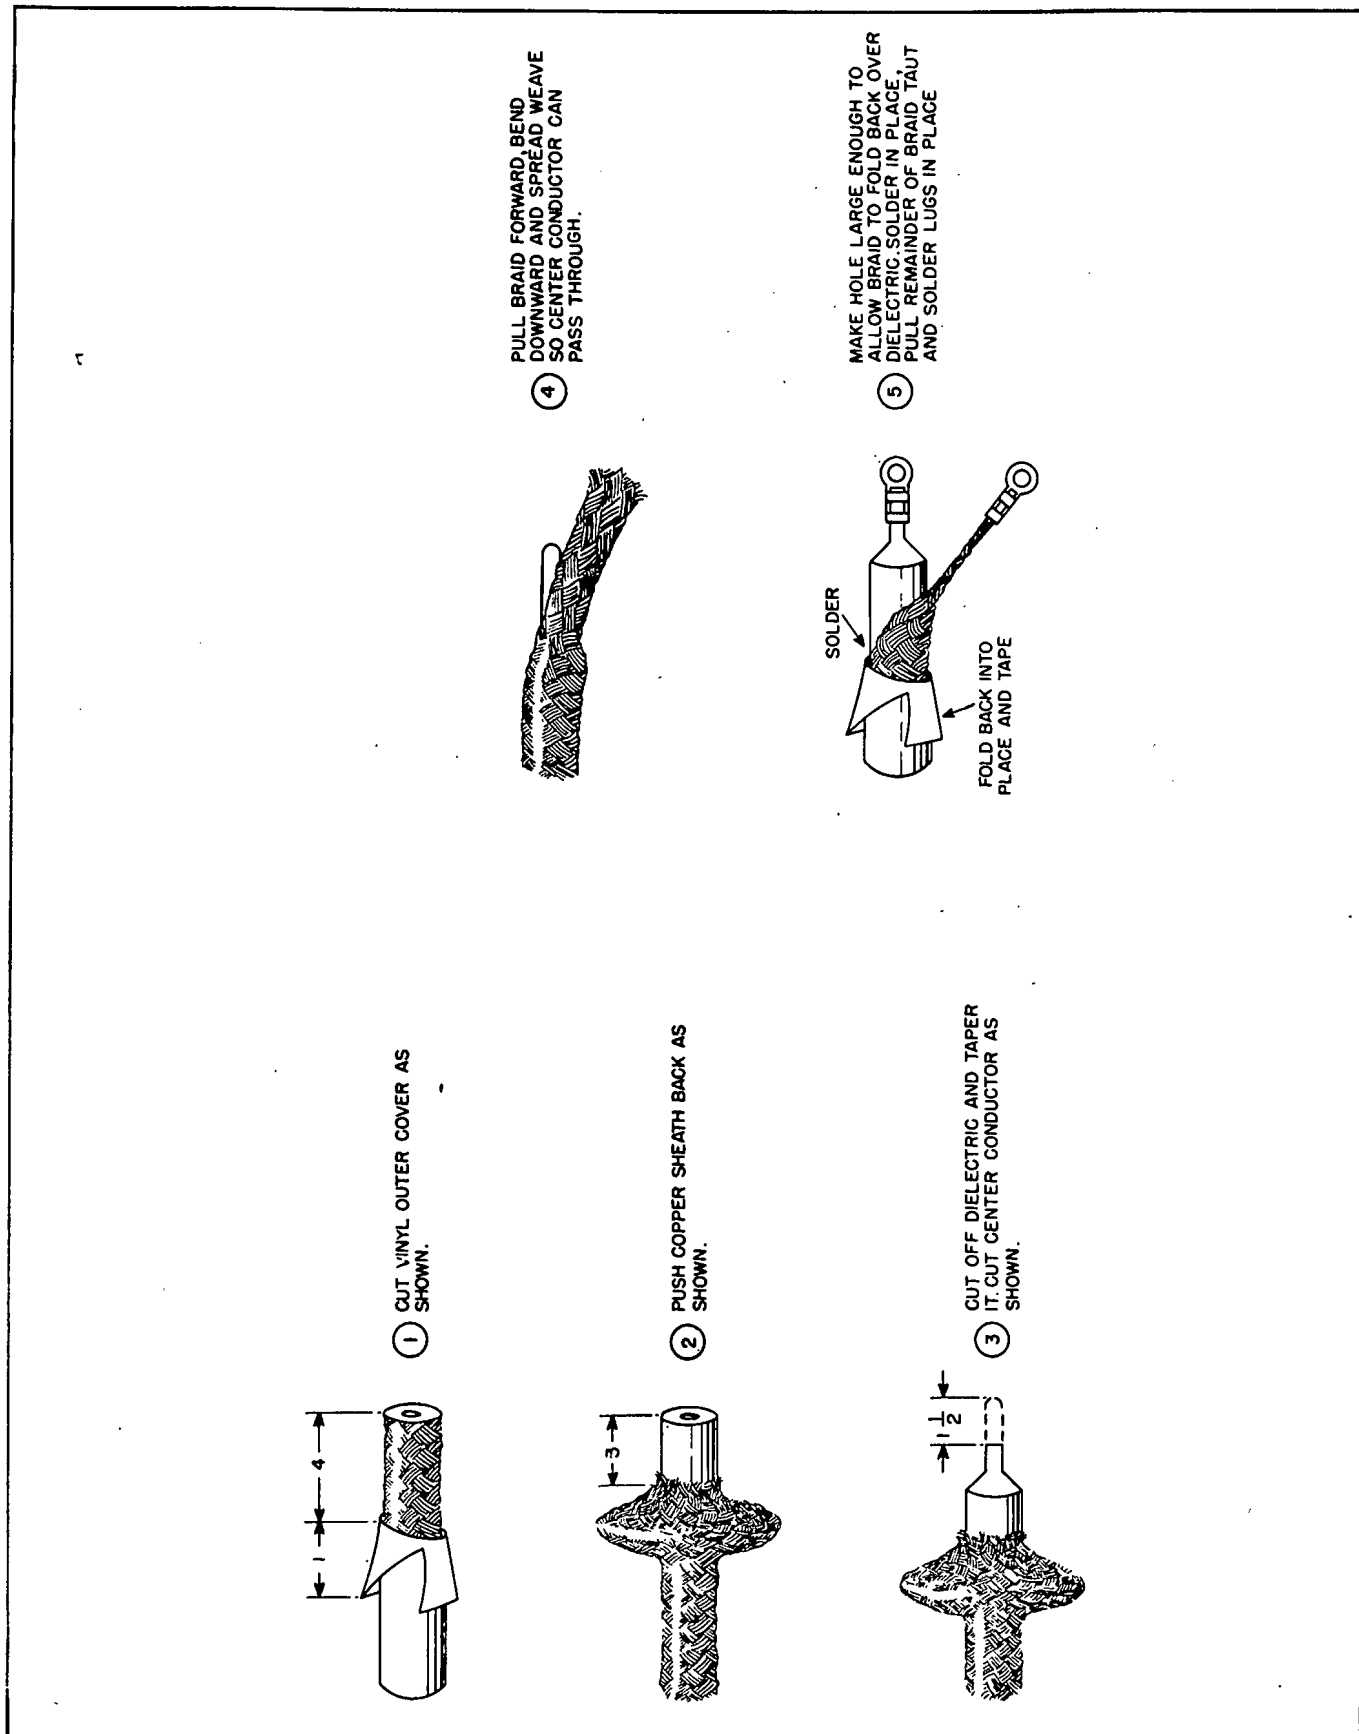

Figure 3-32. RG-12/U Coaxial Cable, Assembly of Connecting Lugs
(9) The cables carrying the trigger and video signals are of the RG-12/U type. This is a coaxial cable, which must be connected to the terminal boards on the cases of the Indicator Console and the remote indicators. Connection is made by fastening soldering lugs on both the ground braid and the center conductor of the cable. Instructions for soldering these lugs are given in Fig. 3-32.